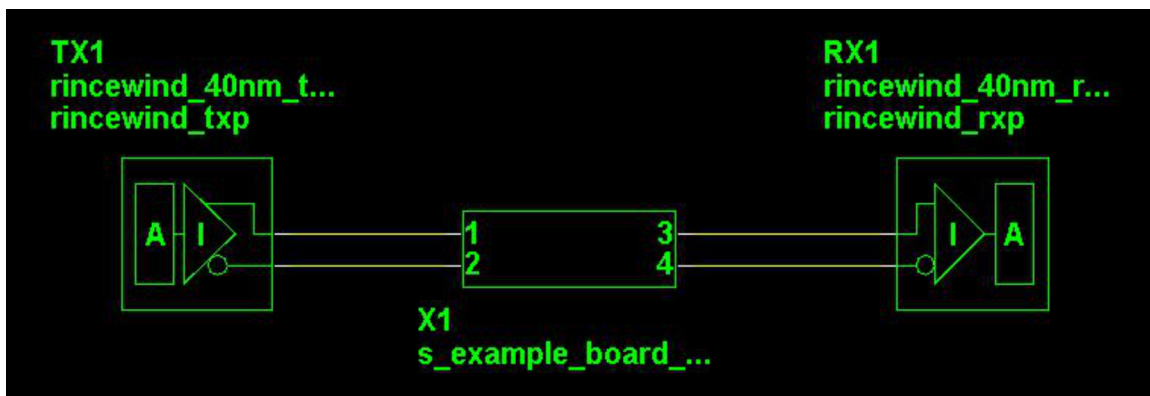

Figure 9. SiSoft QCD – Thru Simulation Schematic
3. Connect the elements as shown in Figure 9.